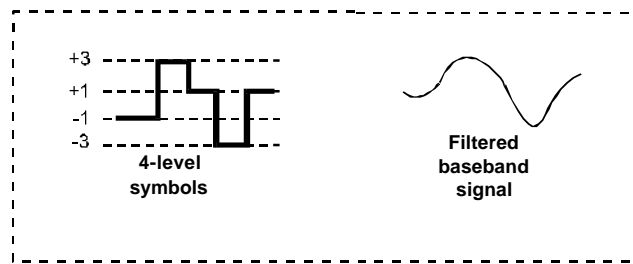
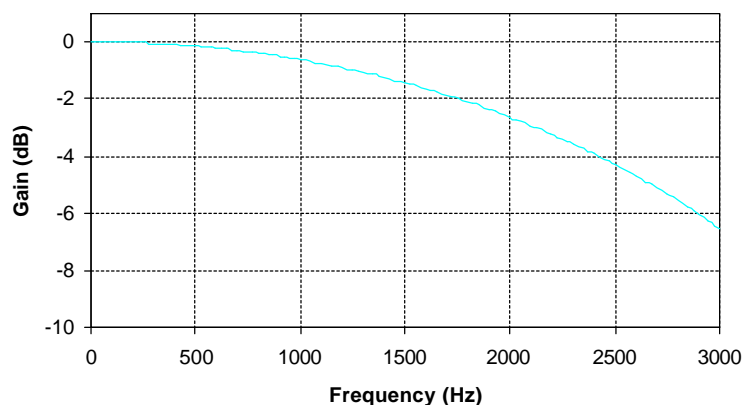

Figure 8 The 4-Level Symbols, Unfiltered and RC Filtered
Figure 9 Receiver Filter Frequency Response
The over-air signal is transmitted as C4FM ('Phase 1' implementation, 12.5kHz channel spacing) or CQPSK ('Phase 2', 6.25kHz channel spacing). In either case the output of a receiving device's FM discriminator is a 4-level 4800 symbol/s signal. The 4-level signal is Raised Cosine (RC) and shape filtered before transmission, as shown in Figure 8.
The demodulated signal (without noise) at the receiver corresponds to that shown as the filtered waveform of Figure 8. The signal is 'integrate and dump' filtered to reject HF noise and to equalise the signal to a form suitable for extracting the 4-level symbols. The filter has a linear phase, $\text{sinc}(\pi.f/4800)$ response up to 2880Hz. The response is shown in Figure 9. The filter is followed by a stochastic gradient clock recovery device, which is capable of extracting the symbol clock from a received signal that has up to $\pm 40\text{ppm}$ deviation from the local symbol rate clock. This allows for $\pm 10\text{ppm}$ symbol rate accuracy of the transmitter and $\pm 10\text{ppm}$ accuracy of the local clock, plus a margin of $\pm 20\text{ppm}$ for radio channel effects.